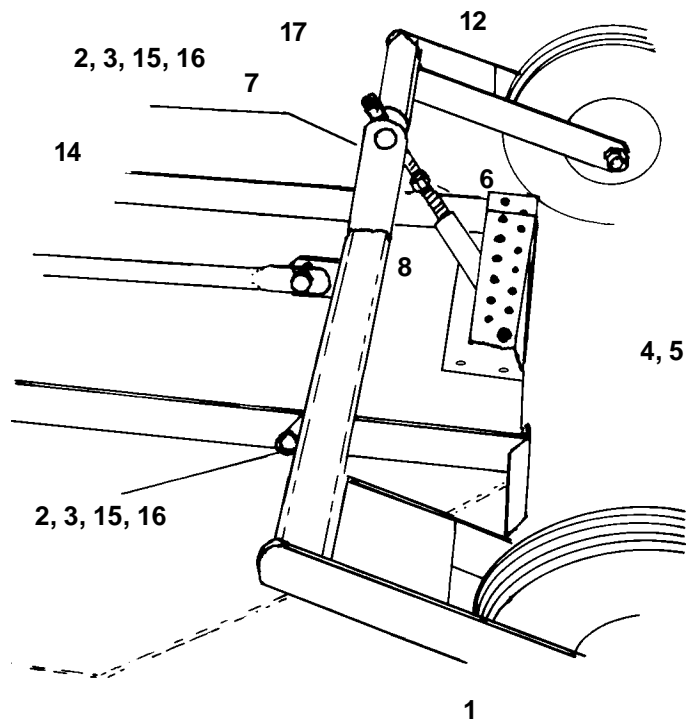

FIGURE 6. Rear Axle Assembly
1. Insert lugs welded on rear axle (1) between Main Frame flats. Install bushings (15) in lugs on axle. Install bolts (2) with flatwashers (16) against bushings (15). Install locknuts (3). **Figure 6**
2. Insert tube assembly (8) between tailwheel adjusting brackets at rear of main deck, and insert bolt (4) through brackets and tube assembly (8). Install locknuts (5). (**NOTE: Always use bottom holes in adjusting bracket.**) **Figure 6.**
3. Insert trunion (7) into vertical lugs on axle (1). Insert bushing (12) over screw assembly (17) then insert screw assembly (17) through hole in trunion (7). Install Jam nut (6) onto screw assembly (17) and then screw into tube assembly (8). **Figure 6.**
4. Attach level rod pipe (14) to lug on rear axle (1) using bushing (15) inserted in axle lug and retained using bolt (2) with flatwasher (16) against bushing (15) and locknut (3). **Figure 6.**